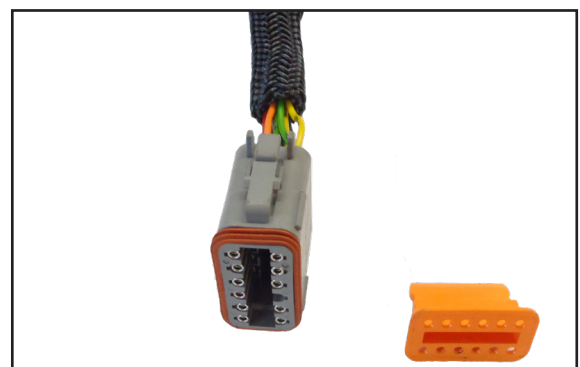

Fig. 34: Removing the X03A terminal
If the 12-pin Deutsch terminal block of the X03A connector is too big for the cable lead-in, you can remove it and insert the cable into the cabin. For that purpose, please proceed as follows (see Fig. 34):
- Using a flat-tip screwdriver, carefully loosen the orange protective bit from the terminal block (see Fig. 34).